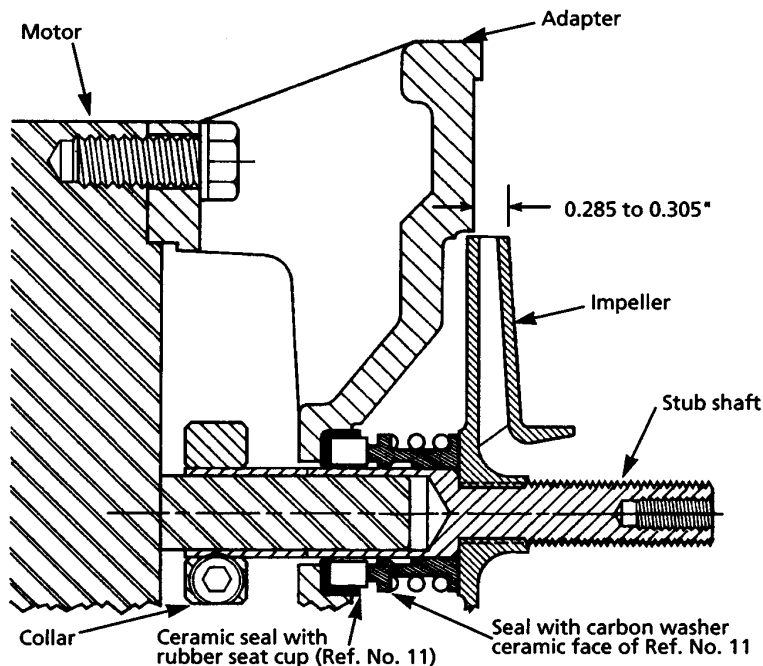

Figure 3 - Mechanical Seal Replacement
2. The impeller is to be set so the face of the shroud is between 0.285" and 0.305" from the adapter face (See Figure 3).